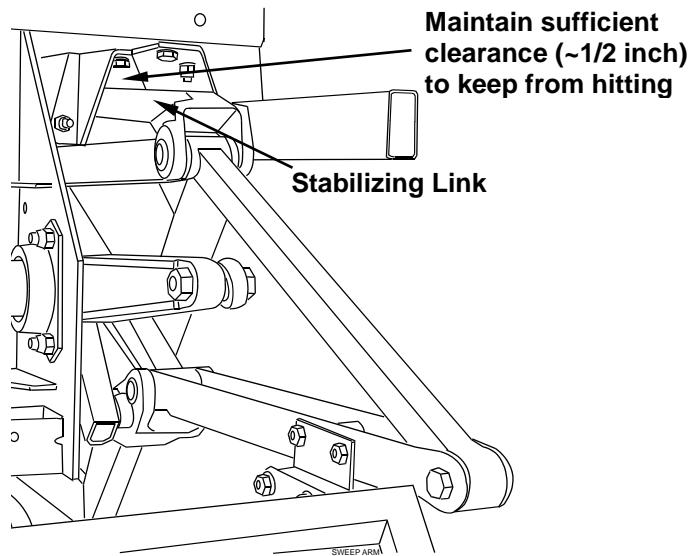

Figure 4.2-26
2. Adjust the long connecting rod (see above) to obtain approximately 1/2-inch of clearance between the stabilizing link and the frame (see Figure 4.2-26) when the sweep is in the home position. The clearance must be sufficient to keep the sweep from contacting the frame during sweep operation.